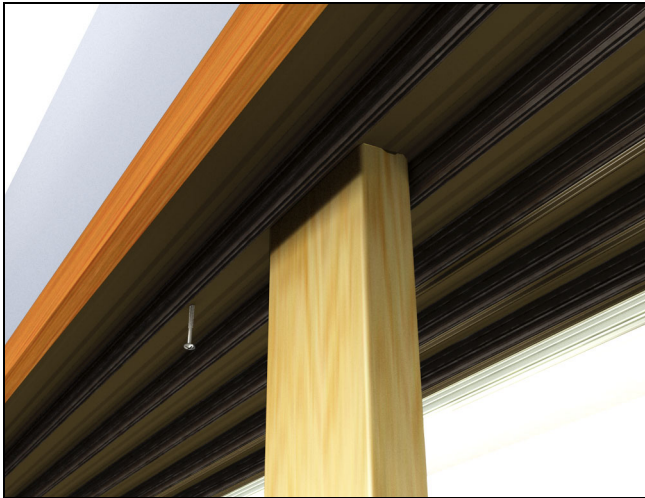

Figure 60
- If necessary, shim head jamb so that the story pole stays in light contact with the sill and head jamb frame. Fasten with #8 x 3" black installation screws. See figure 60.